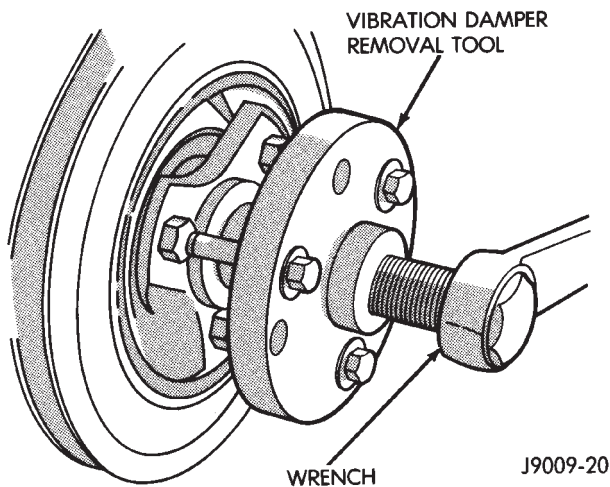

Fig. 1 Vibration Damper Removal Tool 8068 (J-21791-01)
(1) Disconnect negative cable from battery.
(2) Remove the serpentine drive belt and fan shroud.
(3) Remove the vibration damper retaining bolt and washer.
(4) Use Vibration Damper Removal Tool 8068 (J-21791-01) to remove the damper from the crankshaft (Fig. 1).